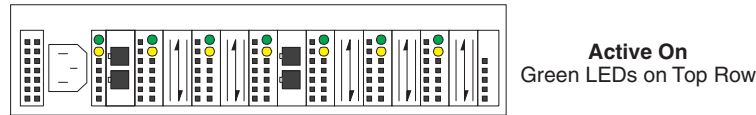

Figure 6. Type 3523 fibre channel hub active LEDs
3. Check the Device Active (green) LEDs on the fibre channel hub ports. See Figure 6 on page 7.